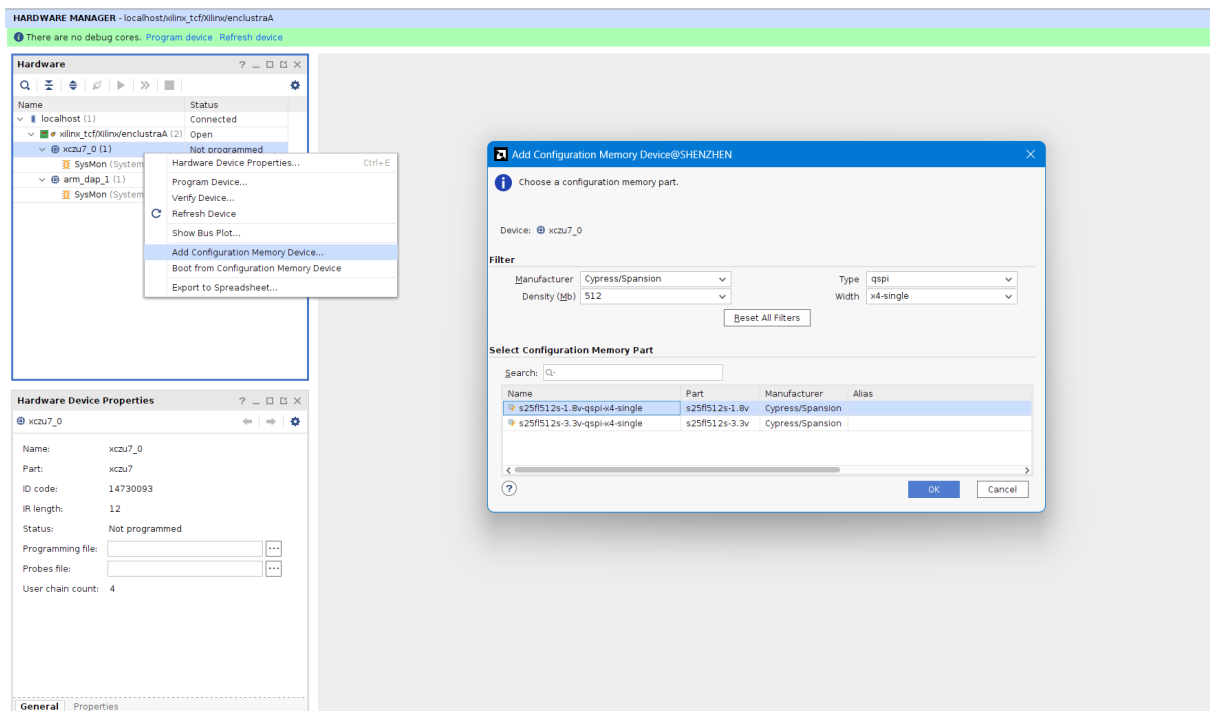

Figure 5: Example Dialog Vivado Configuration Memory (QSPI)
3. Select **Open target > Auto Connect**. The hardware manager should be able to connect to the device as shown in Figure 5.
4. Right-click the MPSoC and select **Add Configuration Memory Device....** A dialog as the one shown in Figure 5 appears.